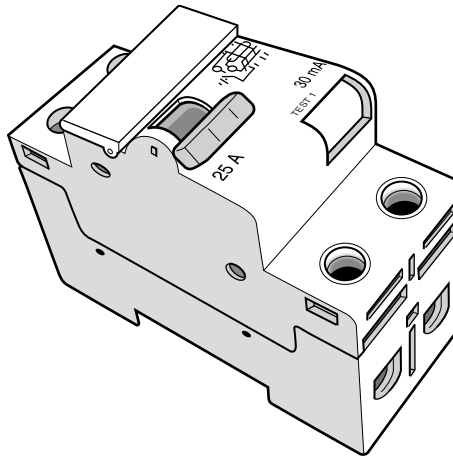

Fig. 8
- (c) Fig. 8 shows a device that is used to prevent danger if there is a problem in an electrical circuit.
- (i) Name the device shown in Fig. 8.